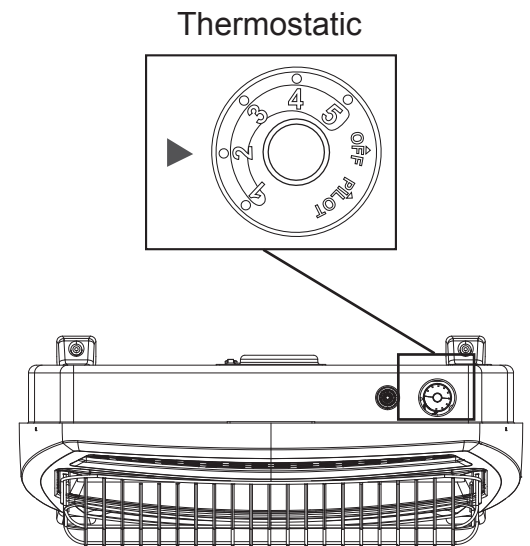

Fig. 25 - Control Knob Position
The thermostat used on this heater senses the room temperature. At times the room may exceed the set temperature. If so, the burner will shut off. The burner will cycle back on when room temperature drops below the set temperature. The control knob can be set to any comfort level between "HIGH" (5) and "LOW" (1) (See Fig. 25).